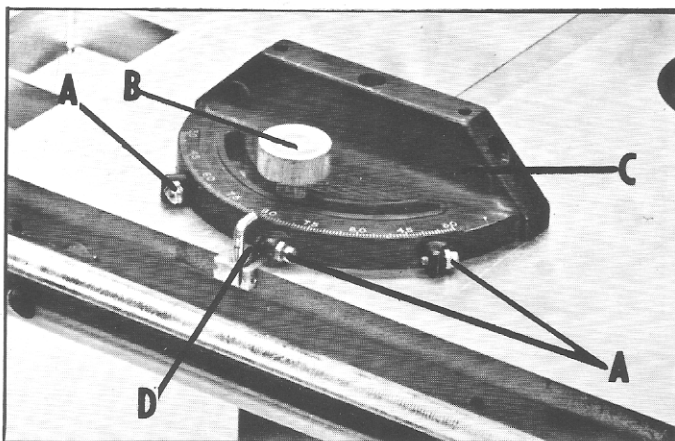

Fig. 32
Your Rockwell Miter Gage is accurately constructed and equipped with individually adjustable index stops at 90 degrees and 45 degrees right and left. Adjustment to the index stops can be made by tightening or loosening the three adjusting screws (A) Fig. 32.
To operate the miter gage, simply loosen the lock knob (B) Fig. 32, and move the body of the miter gage (C) to the desired angle. The miter gage body will stop at 0 degrees and 45 degrees both right and left. To rotate the miter gage body past these points, the stop link (D) Fig. 32, must be flipped out of the way.